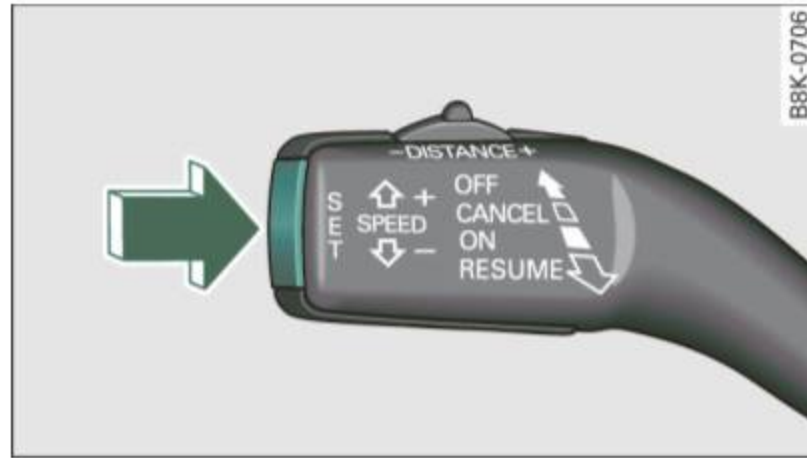

Fig. 124 Control lever: Storing speed
- Press the **SET** button ⇒ fig. 124 to store the desired speed.
You can increase your speed at any time by stepping on the accelerator pedal. After you release the accelerator pedal, the system adjusts back down to the speed you previously set. A new desired speed can be stored at any time by pressing the **SET** button ⇒ *page 124*, fig. 124. ■